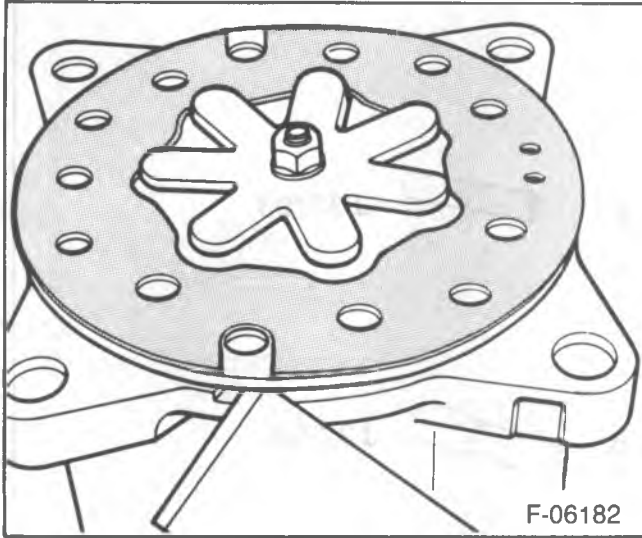

Figure 16—Loosening the Valve Plate
- Use a small hammer and the gasket scraper to tap the outer edge of the head until it is freed from the plate (figure 16).